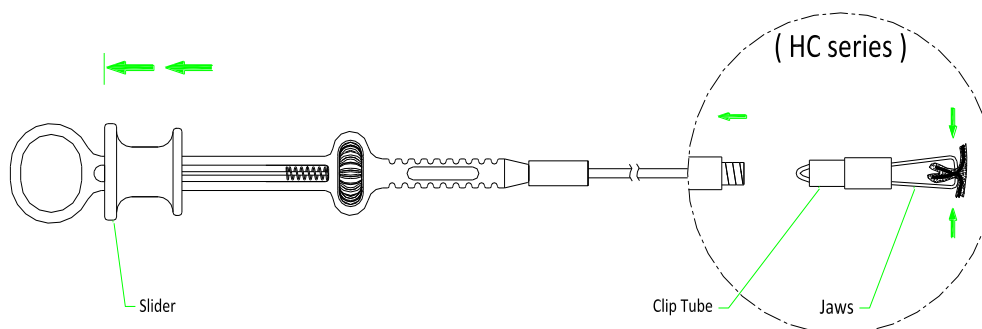

Figure 1.7: The Clip Permanently Deployed
1.7. To permanently deploy the clip, continue moving the slider toward the thumb ring beyond the 2nd tactile resistance point, at this point a 2nd click may be heard or felt. Continue moving the slider toward the thumb ring until a second tactile resistance point and/or click is heard or felt. Continue moving the slider until it reaches the thumb ring, as shown in Figure 1.7.